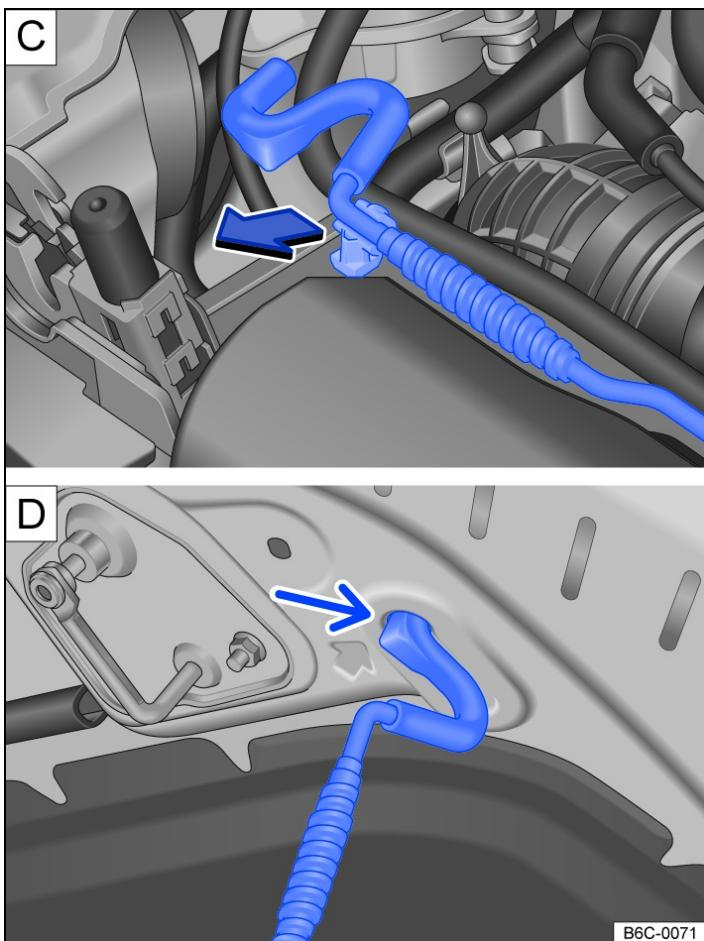

Fig. 2 **C** In the engine compartment: bonnet stay in the holder. **D** On the bonnet: recess for the bonnet stay (illustration).
- Take the bonnet stay out of the holder in the direction of the arrow → *Fig. 2 C* and insert in the opening → *Fig. 2 D*.
- Unhook the bonnet stay from the opening → *Fig. 2 D* and place in the holder → *Fig. 2 C*.